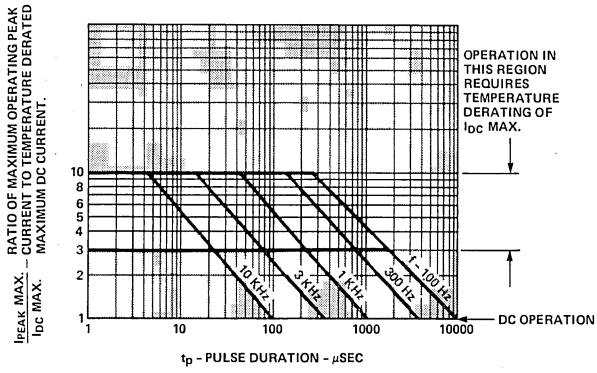
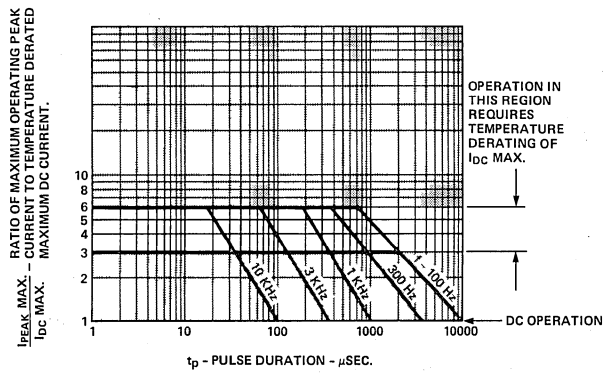
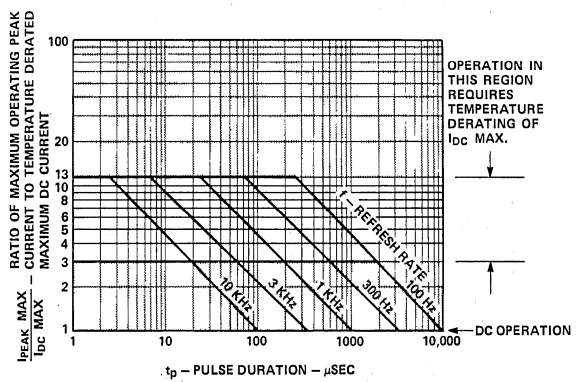

Figure 6. Maximum Tolerable Peak Current vs. Pulse Duration — HDSP-7501 Series
Figure 7. Maximum Tolerable Peak Current vs. Pulse Duration — HDSP-7401 Series
Figure 8. Allowed Peak Current vs. Pulse Duration — HDSP-7801 Series
7. See Figures 1, 6, 7, and 8 to establish pulsed operating conditions. (Figure 1, HDSP-7301 Series; Figure 6, HDSP-7501 Series; Figure 7, HDSP-7401 Series; Figure 8, HDSP-7801 Series).